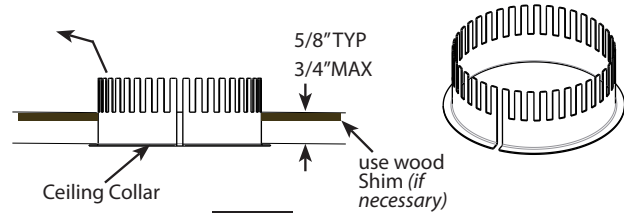

Fig: 3
1. Install **Ceiling Collar** into opening. Secure **Ceiling Collar** by pushing fingertabs down tightly over ceiling (Fig. 3).